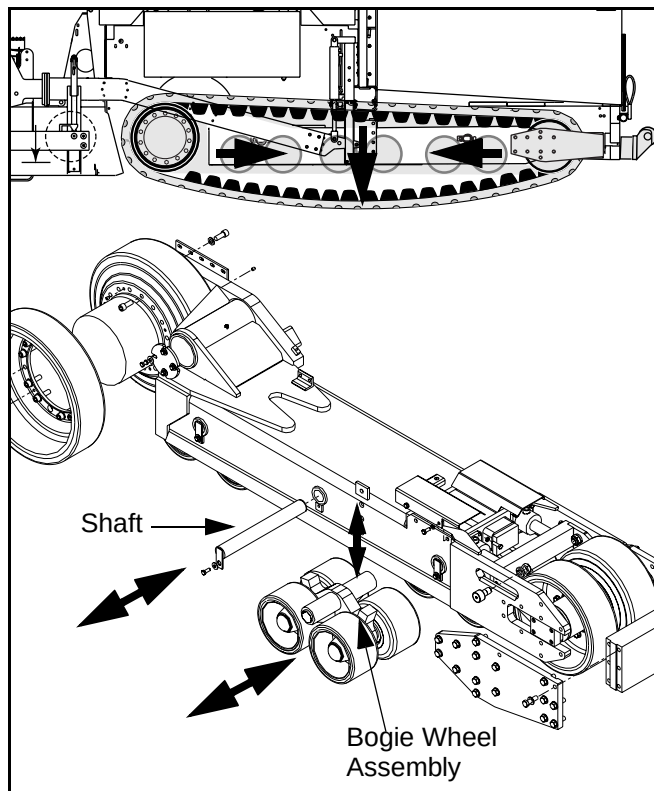

Figure 6 - 79 Bogie Wheel Assembly Removal
- 2) Remove shaft from track frame that holds center bogie wheel assembly to frame (Figure 6 - 79). This will allow the assembly to drop onto the track.
If it is determined that bearing replacement is necessary, proceed with the following: (Figure 6 - 80)